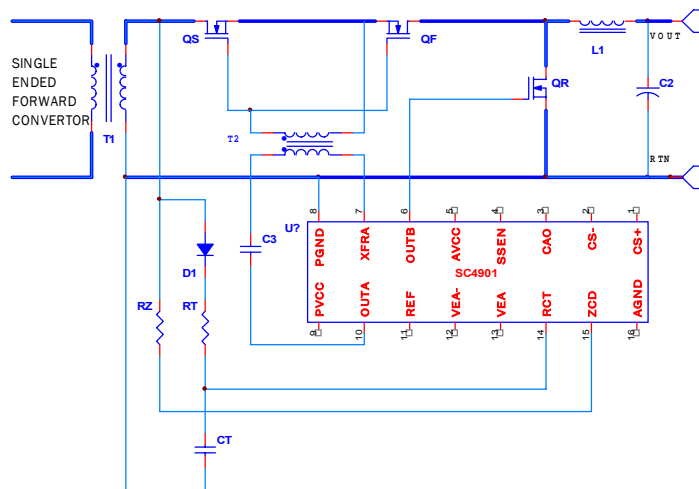

Fig 1. Generating the Zero Crossover Detect (ZCD) and the Timing Ramp (RCT) signals
Prior to transformer voltage going positive, the ramp capacitor is at its maximum of 3.0V. On the rising edge of transformer secondary, 0.75V at the ZCD pin is detected first and OUTB gate drive goes low which turns off the low side rectifying FET QR (Fig. 1). Simultaneously a current sink of 10 mA is activated to discharge the timing capacitor CT to the lower threshold of 1V. This discharge time provides the delay between turn off of rectifying FET and turn on of the forward MOSFETs and is given by
- V_{FWD} = Forward drop of the signal diode (D1 in Fig 1)